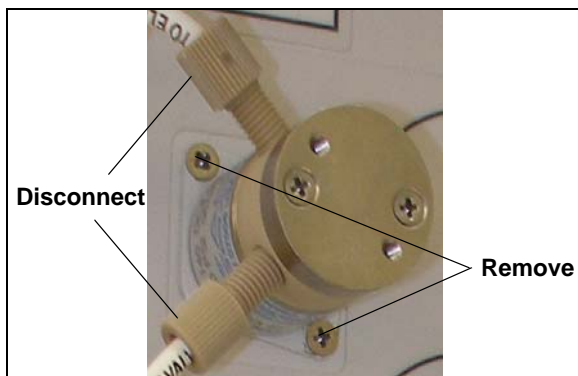

Figure 5-26. Eluent Valve
4. Disconnect the two liquid lines connected to the eluent valve (see Figure 5-26).
5. Unscrew and remove the two screws that attach the valve to the component panel (see Figure 5-26). Save the screws.